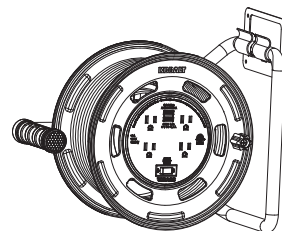

Figure 1
- Can be wall mounted for storage (**Figure 1**).